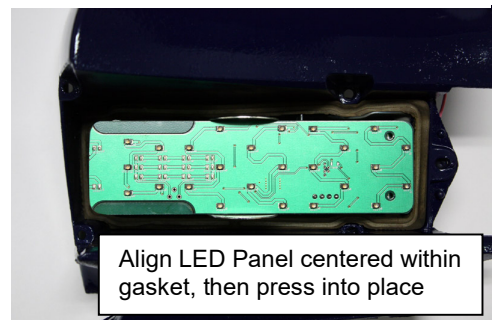

Figure 4
- 4.4. Remove the cover tape from the mounting foam on back of panel. Align the LED panel within the gasket inside the housing. (See Figure 4) When LED panel is centered properly, press into place.